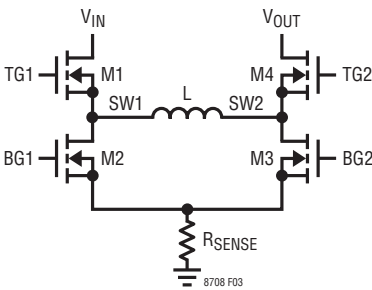
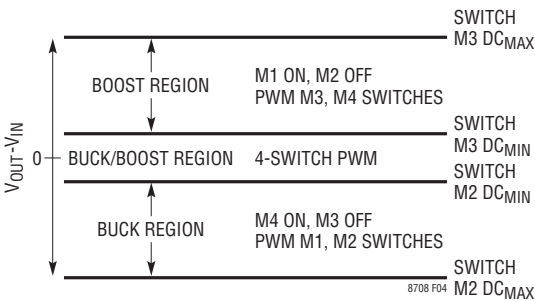

Figure 3. Simplified Diagram of the Buck-Boost Switches
Figure 4. Operating Regions vs $V_{OUT} - V_{IN}$
Figure 3 shows a simplified diagram of how the four power switches are connected to the inductor, V_{IN} , V_{OUT} and ground. Figure 4 shows the regions of operation for the LT8708 as a function of $V_{OUT} - V_{IN}$ or switch duty cycle (DC). The power switches are properly controlled so the transfer between modes is continuous.